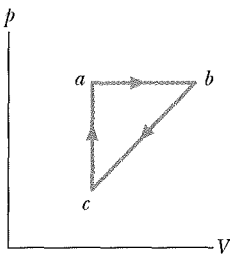

Fig. 18-42 Problem 50.
•50 A lab sample of gas is taken through cycle $abca$ shown in the p - V diagram of Fig. 18-42. The net work done is $+1.2$ J. Along path ab , the change in the internal energy is $+3.0$ J and the magnitude of the work done is 5.0 J. Along path ca , the energy transferred to the gas as heat is $+2.5$ J. How much energy is transferred as heat along (a) path ab and (b) path bc ?